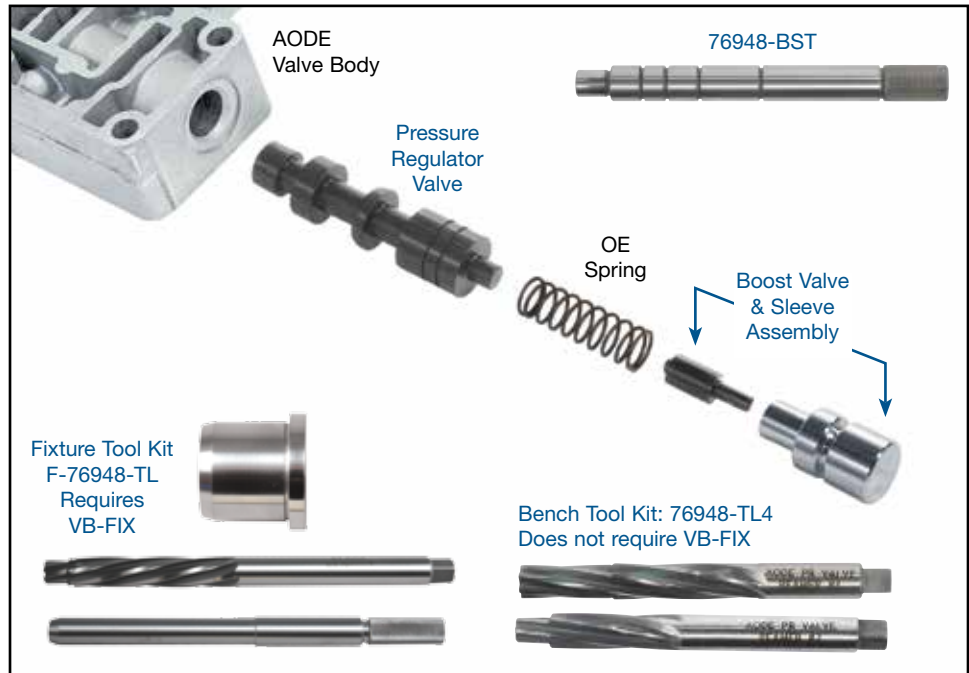

Figure 1
1. Identify Early VS Late Valve Body (Figure 1)
- Identify valve body and valve application (Figure 1).